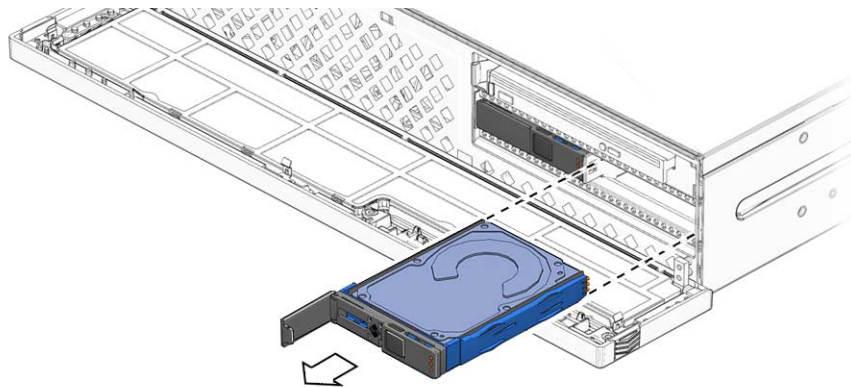

FIGURE 3-20 Removing the Hard Drive From the Server
5. Grasp the latch and pull the drive out of the drive slot (FIGURE 3-20).